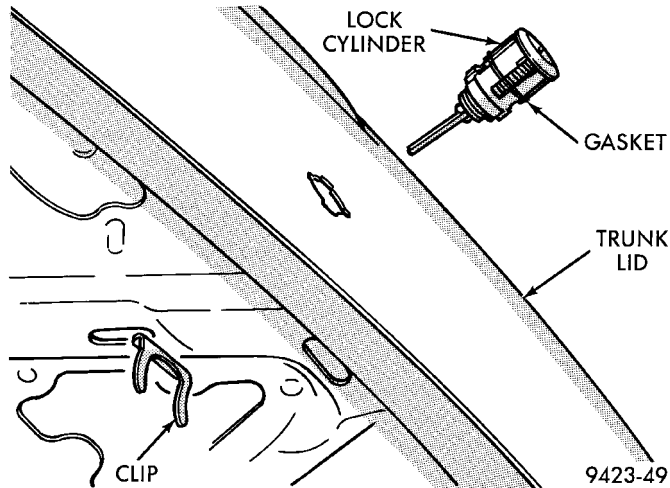

Fig. 77 Trunk Lock Cylinder
- (1) Remove trunk latch.
- (2) Remove clip holding trunk lock cylinder to trunk lid.
- (3) Pull lock cylinder from trunk lid (Fig. 77).